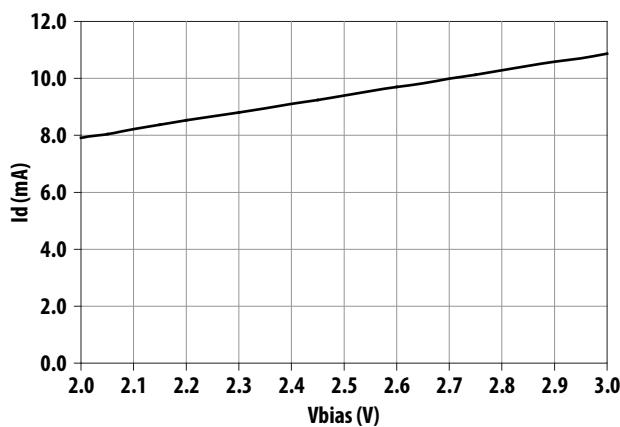

Figure 5. Id vs Vbias ($V_{dd} = 3$ V; $V_{sd} = 0$ V). Vbias is varies in this plot.
1. Device operation in LNA mode if $V_{bias} > 2.2 \text{ V}$ and $V_{sd} < 0.5 \text{ V}$. Bias current of LNA can be varied with different values of V_{bias} for $V_{bias} > 2.2 \text{ V}$. See Fig 5 below.